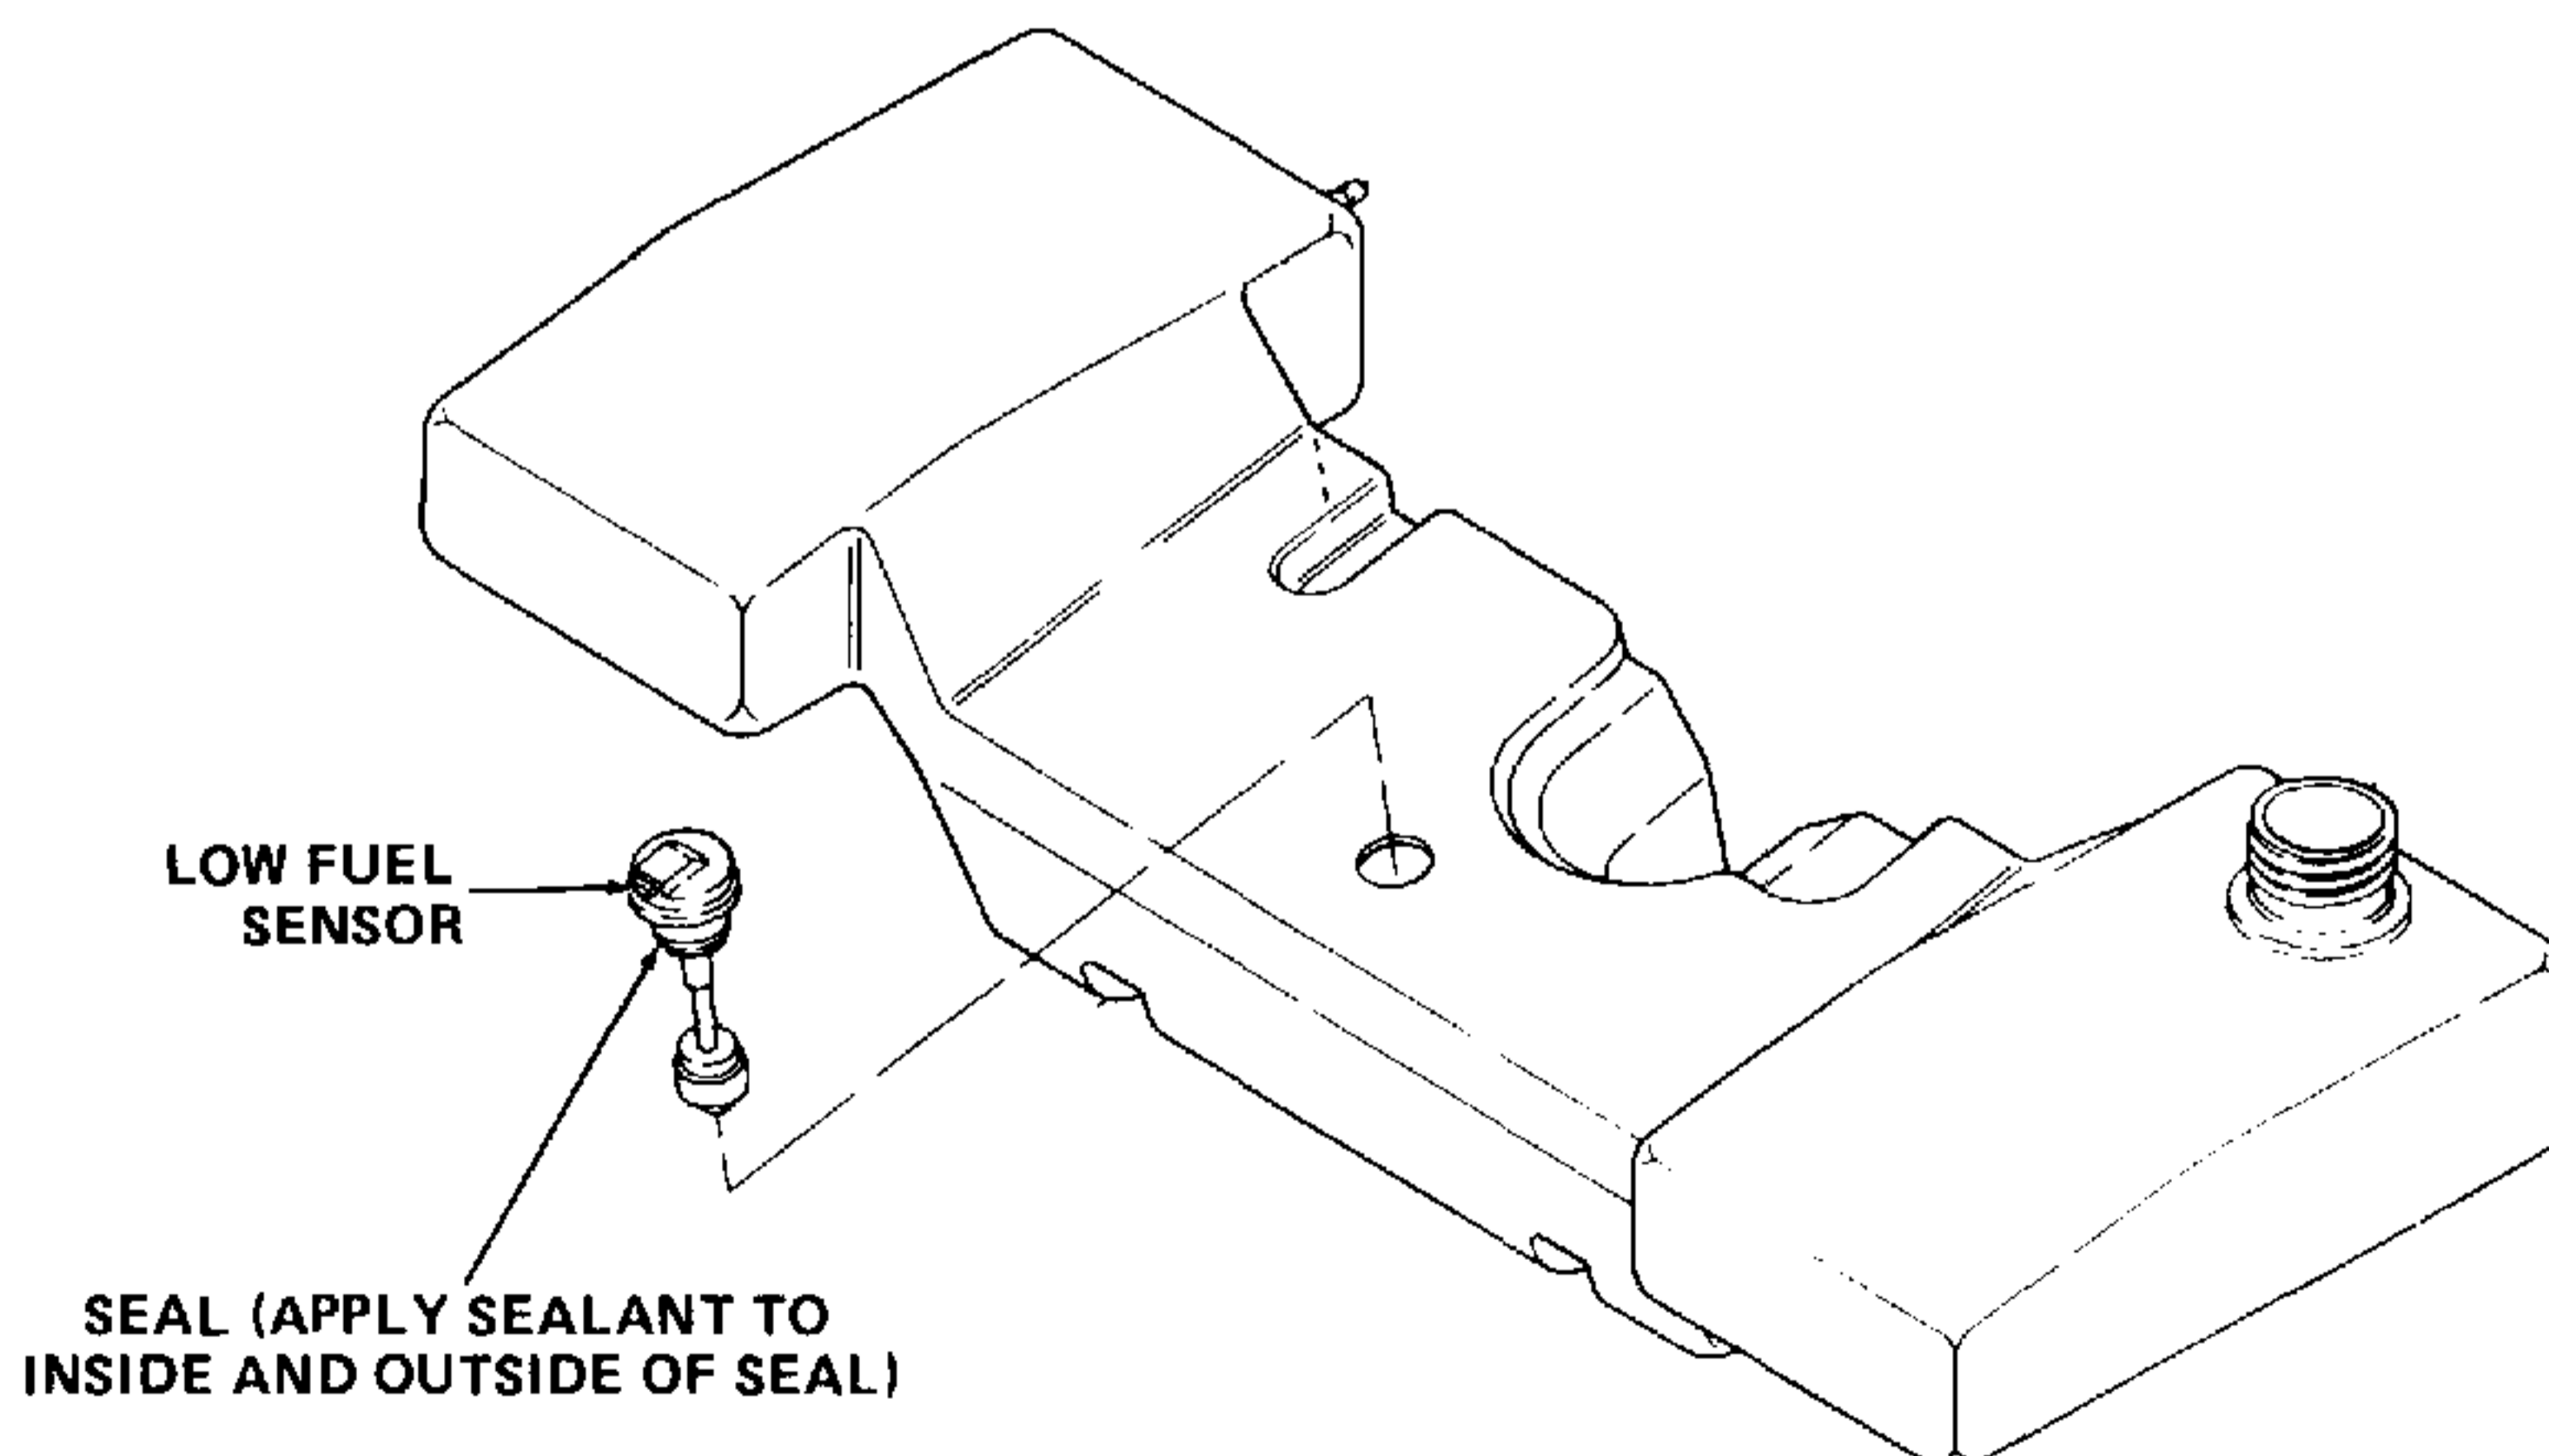

Figure 5-67. Low Fuel Sensor Installation.
1. Install bushings (12) and fuel shutoff valves (11).
2. Install fuel lines (7, 8 and 9) and T-fitting (10) with hose clamps (5).
3. Install low fuel sensor (6). Refer to Figure 5-67.
5. Install low fuel sensor (6). Refer to Figure 5-67.